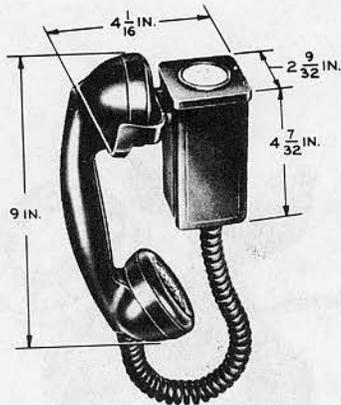

Fig. 6 - Manual Hang-up G-type Set
5.04 The 211J, 211L, and 212L hang-up hand telephone sets, equipped with the G-type mounting and G-type handset, are furnished with a chromium plated handset hook, but otherwise are similar in external appearance to the hand telephone sets shown in Fig. 6 and 7. These hand telephone sets are designed to be used with the 685- and 686-type subscriber sets.